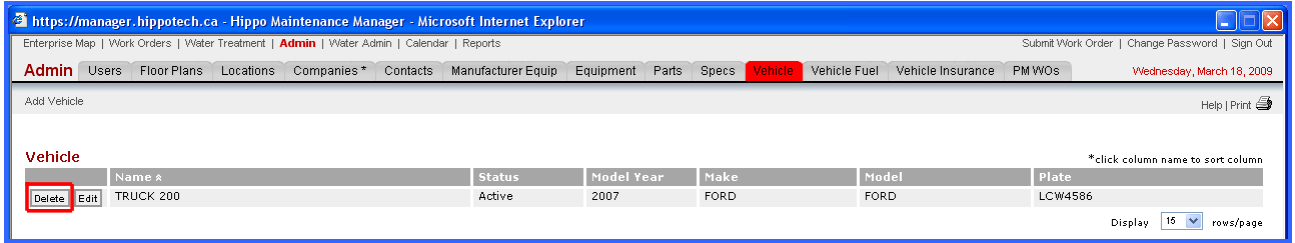

Figure 49: Delete Vehicle
2. Click the **Delete** button beside the vehicle that you want to delete (See Figure 49).